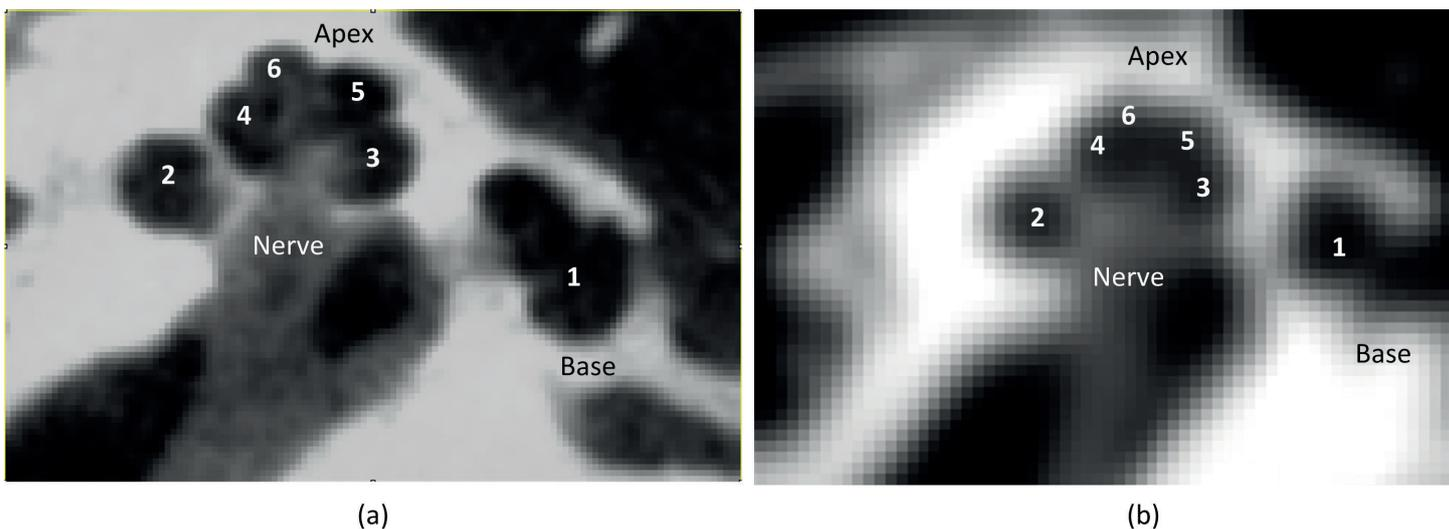

Figure 1
liver cells were co-cultured to mimic an airway interface (Fig. 1) [52]. Rat hepatocytes cultured in the chip could continuously and stably synthesise albumin and undergo metabolism. Lee et al. [53] designed a chip that mirrored the interstitial structure of endothelial cells and cultured primary hepatocytes, with culture media perfused outside the gap. This permeable endothelial gap separated hepatocytes in cord-based structures permitting their separation from the external sinusoidal region, simultaneously maintaining efficient substance exchange.
**Fig. 1** Schematic of the DLM-based liver tumor-on-a-chip. **a** Preparation of the DLM solution from a natural liver; **b** 3D schematic representation of the various components of the equipment (top and bottom, top and bottom microchannels, PET membrane, air inlet, and outlet) and their respective dimensions (reprinted with permission from [52] Copyright © 2006, Royal Society of Chemistry)